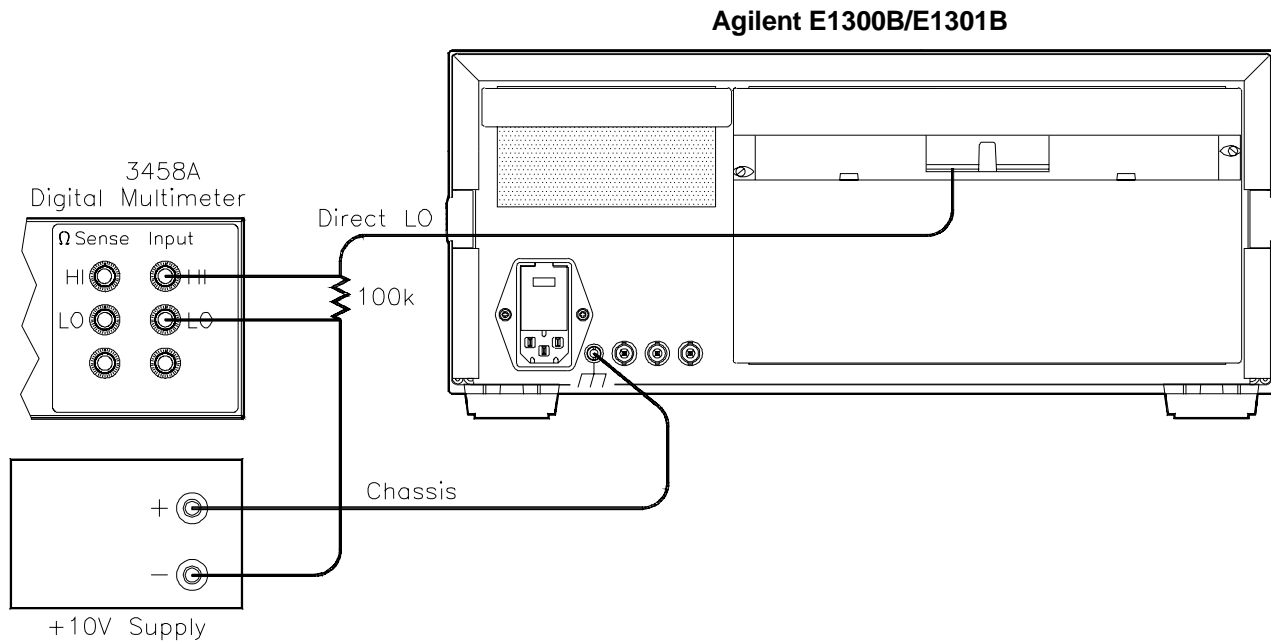

Figure 2-11. Negative LO to Chassis Leakage Connections
- Connect DMM, power supply, and resistor as shown in Figure 2-11